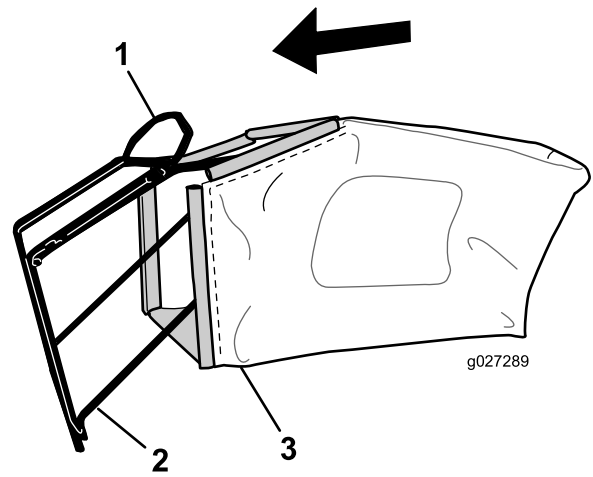

Figure 8
**Note:** Do not slip the bag over the handle (Figure 8).
1. Slip the grass bag over the frame as shown in Figure 8.